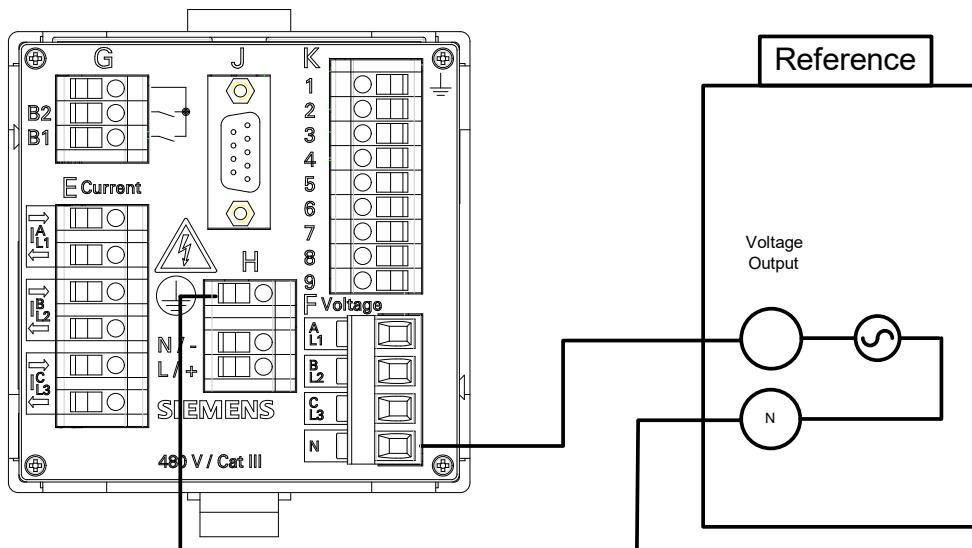
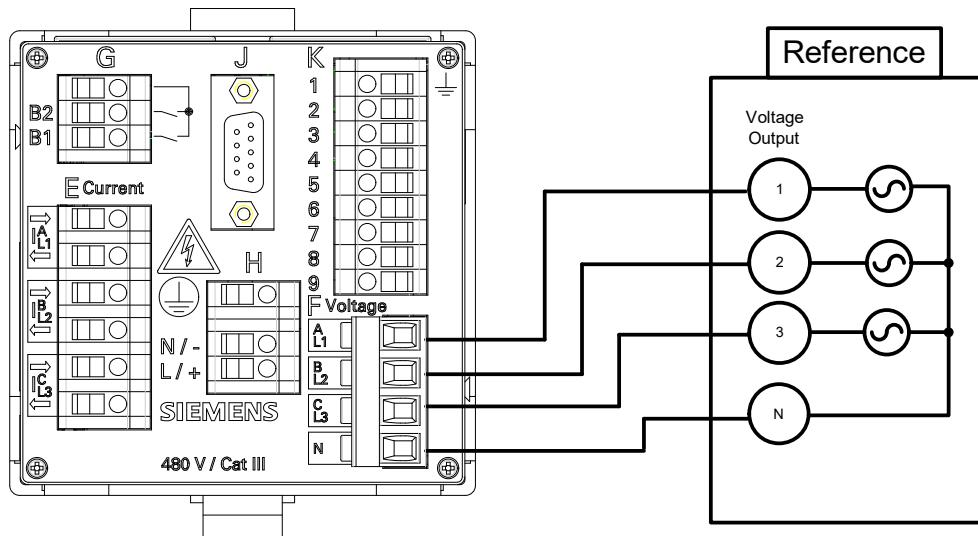

Fig. 10-7 Measurement Setup for Calibrating VN
Fig. 10-10 Measurement Setup for Calibrating VN
- ❖ Set up the measurement as shown in figure 10-7 or figure 10-10, acc. to device version.
- ❖ Set up the measurement as shown in figure 10-10.